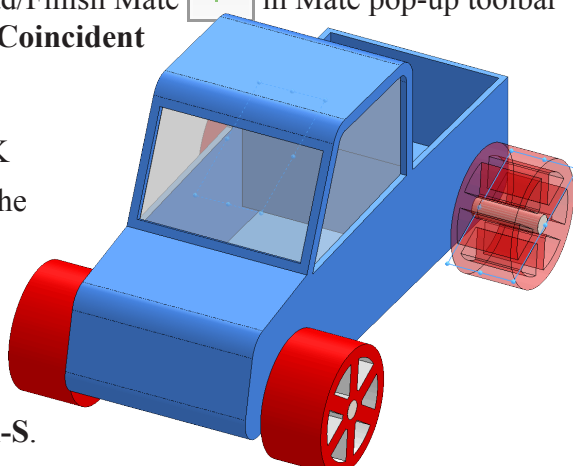
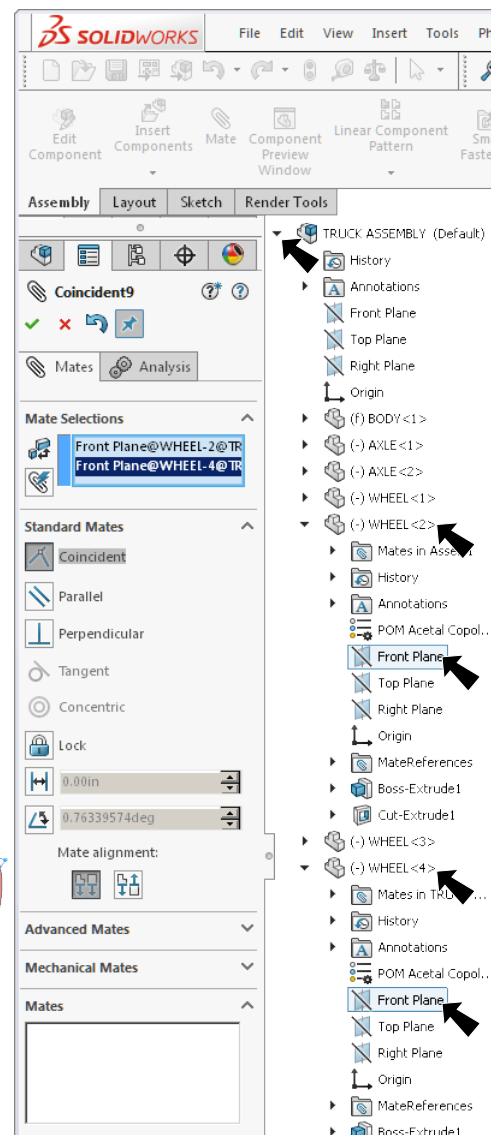

Fig. 14
Fig. 13
Step 11. Expand the flyout Feature Manager design tree (click ) in the top left corner of the graphics area. Then, expand **WHEEL2** and click **Front Plane**, **Fig. 13** and **Fig. 14**.
Step 12. Expand **WHEEL4** and click **Front Plane**, **Fig. 13**.